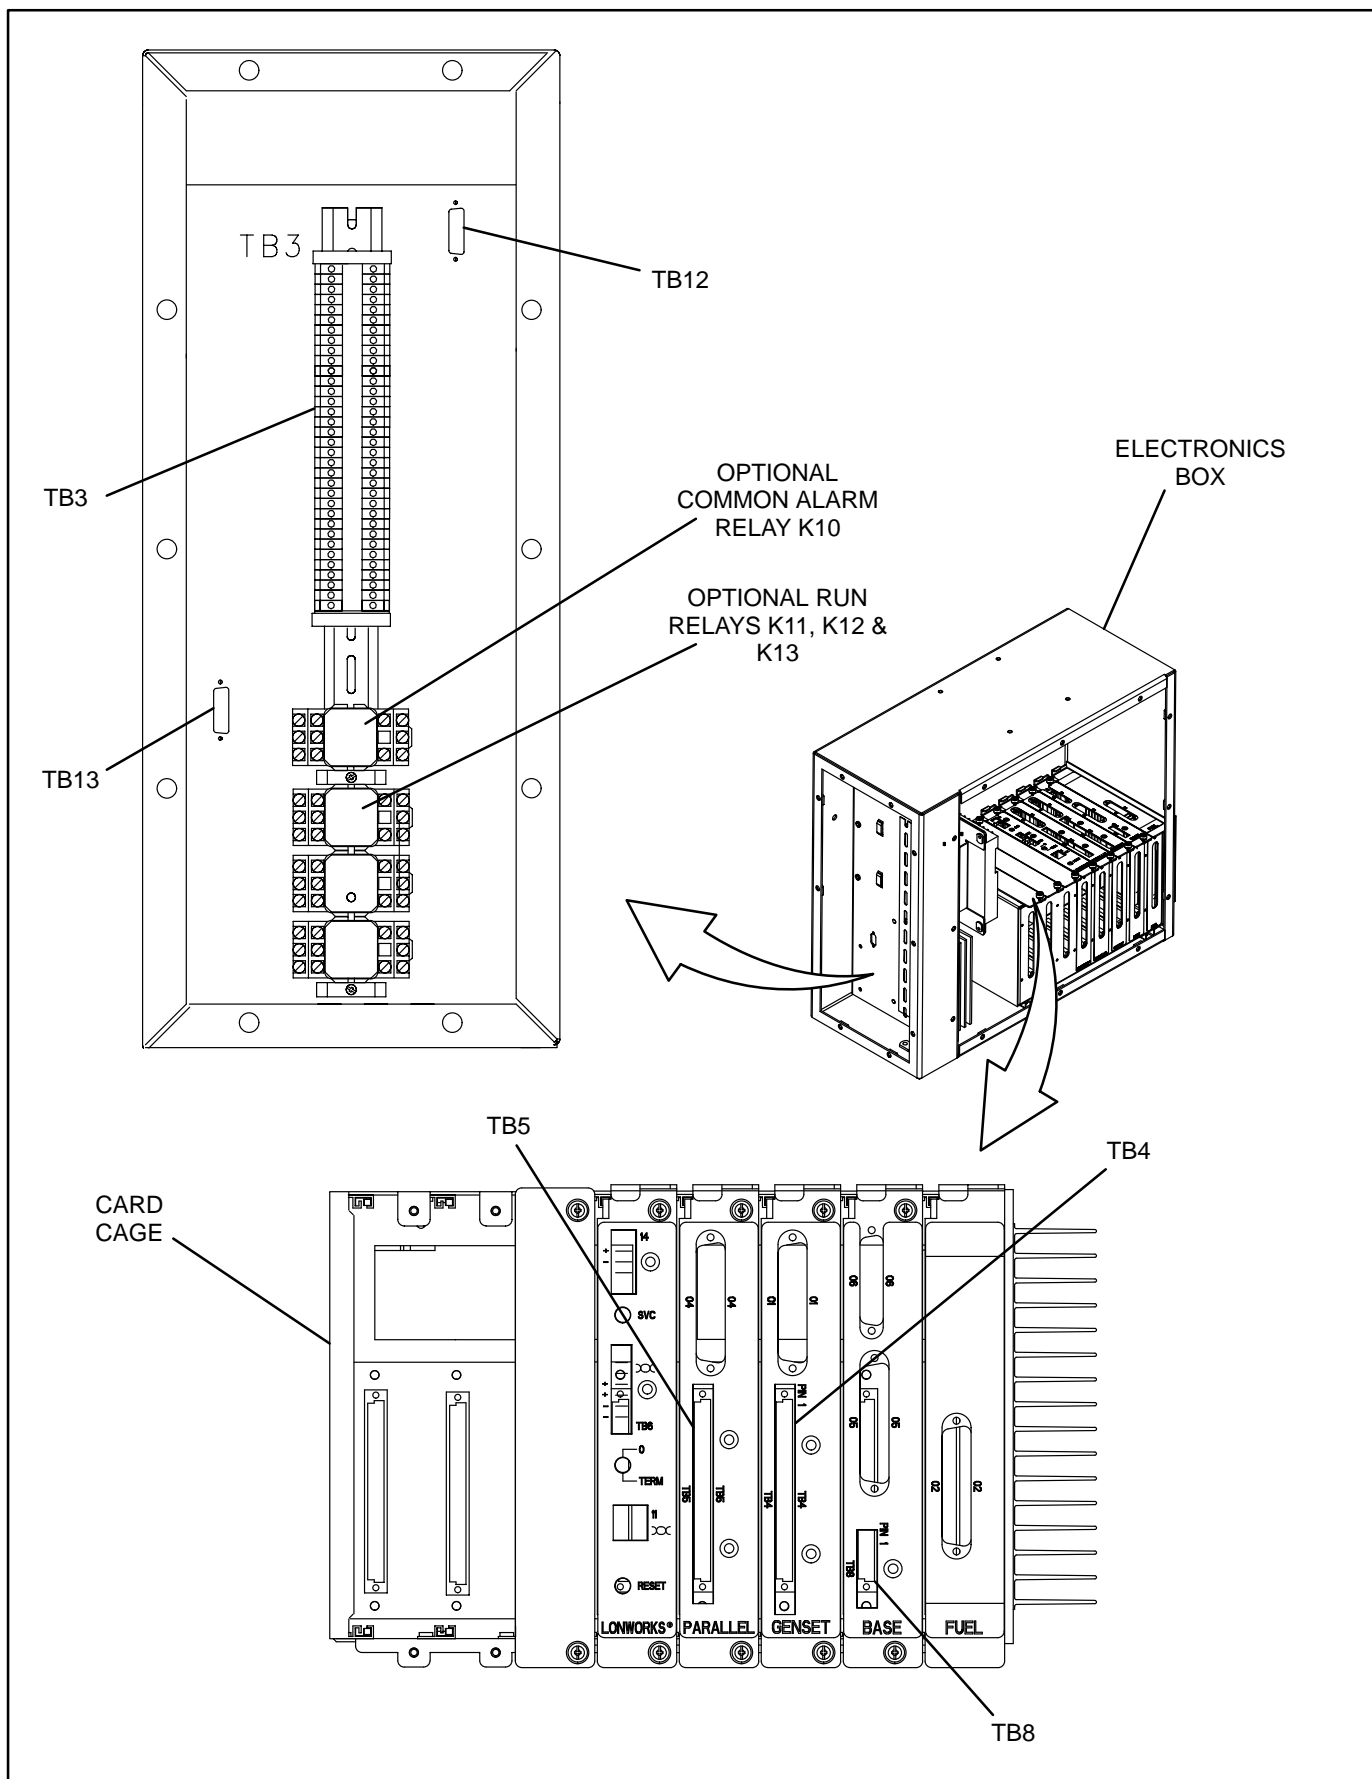

FIGURE 3-10. ELECTRONICS BOX
The generator set electronics box, which is located on the engine side of the control housing, contains connection points for remote control and monitor options. These connection points are located in two different locations within the electronics box as shown in Figure 3-10.
The optional run relays are rail mounted inside the electronics box (Figure 3-10). The rail mount allows you to easily remove and replace the snap-on relays. The generator set can be equipped with one, two or three run relays.
The optional alarm relay is rail mounted inside the electronics box (Figure 3-10). The rail mount allows you to easily remove and replace the snap-on relay.
2. Remove the housing cover of the electronics box and remove connector **10** from the regulator output module. See Figure 3-10.
1. Remove the housing cover of the electronics box and remove connector **10** from the regulator output module. See Figure 3-10.
2. Remove the housing cover of the electronics box and remove connector 10 from the regulator output module. See Figure 3-10.